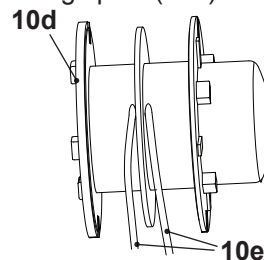

Fig. 16
1. Remove the trimming spool (10d) from the trimmer head (10) as instructed in chapter "Trimming line - Replace the trimming spool".
5. Lead one end of the new trimming lines (10e) through the small eyelet on the trimming spool (10d) (Fig. 16).